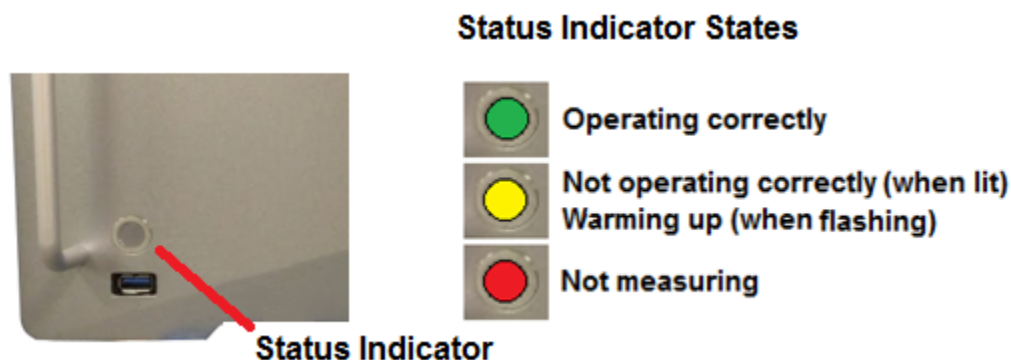

Figure 4: Status Indicator States
Figure 3 shows the analyzer front panel and Figure 4 shows the analyzer back panel.
2. Switch on the main power to the analyzer (Figure 4).